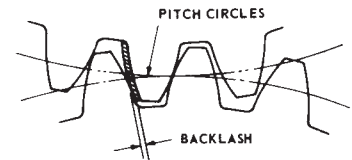

FIGURE 1.12 — BACKLASH
- 1.33 Backlash** is the amount by which the width of a tooth space exceeds the thickness of the engaging tooth on the operating pitch circles. (Figure 1.12)